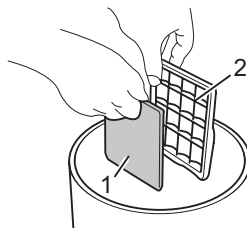

Fig. 25
3. Separate the protective motor filter (Fig. 25/1) from the filter holder (Fig. 25/2) over a dustbin.